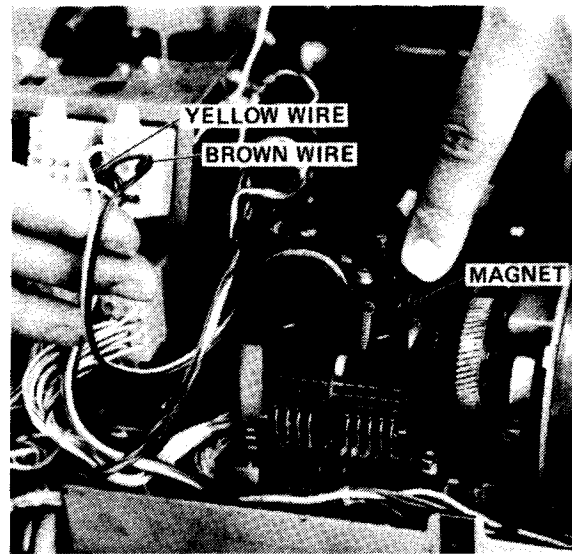

Figure A-7. Distributor Trip Magnet
- b. Disconnect brown wire shown in figure A-7 from plastic connector. Connect this brown wire to terminal l2 on mode switch. (Brown wire will have to be extended.)